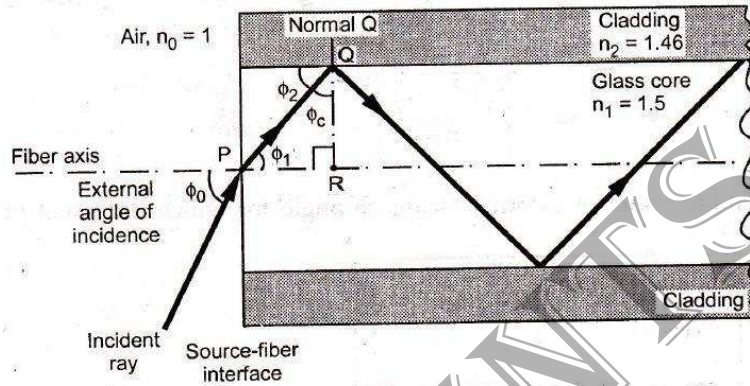

Fig. 1.6.8 Ray propagation by TIR
- x A light beam is focused at one end of cable. The light enters the fibers at different angles. Fig. 1.6.8 shows the conditions exist at the launching end of optic fiber. The light source is surrounded by air and the refractive index of air is  $n_0 = 1$ . Let the incident ray makes an